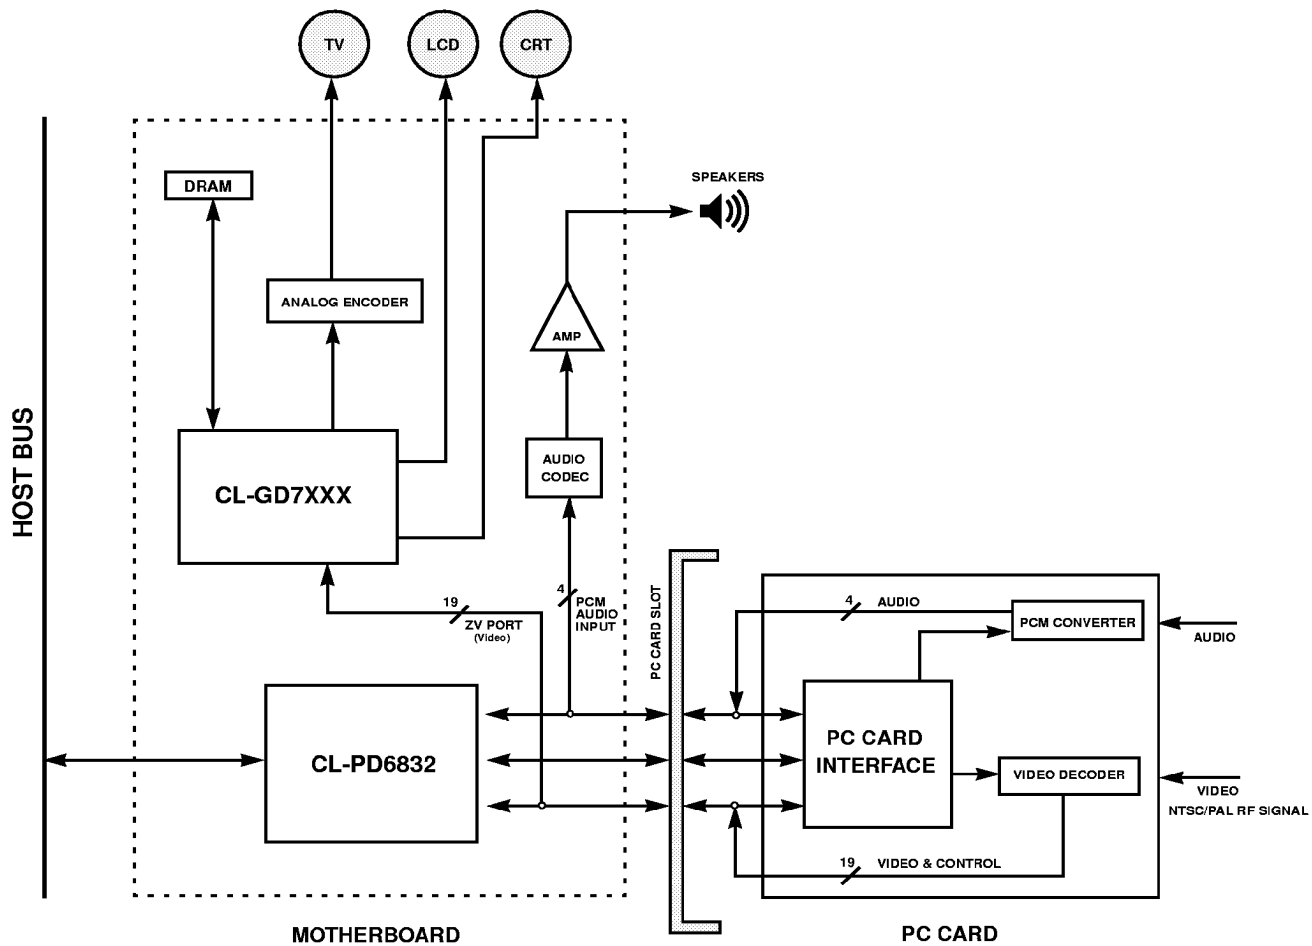

Figure 3-5. A Typical ZV Port Implementation
Figure 3-5 on page 30 shows an example of the ZV Port implementation using the CL-PD6832. For more details, refer to the application note *Zoomed Video (ZV) Port Implementation (AN-PD10)*.